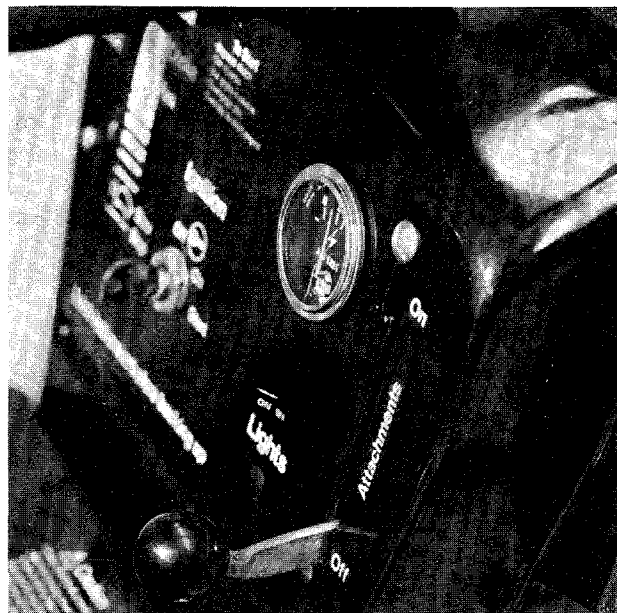

FIGURE 8.
The PTO engagement lever is located on the right side of the dashboard. It is used to engage the blades on the cutting deck or snow thrower attachments. To turn on the attachment, lift the lever slowly and lock it in the notch. To turn off the attachment, remove the lever from the notch and lower it to the OFF position. See figure 8.
1. Place the PTO lever in the disengaged position (down). See figure 8.